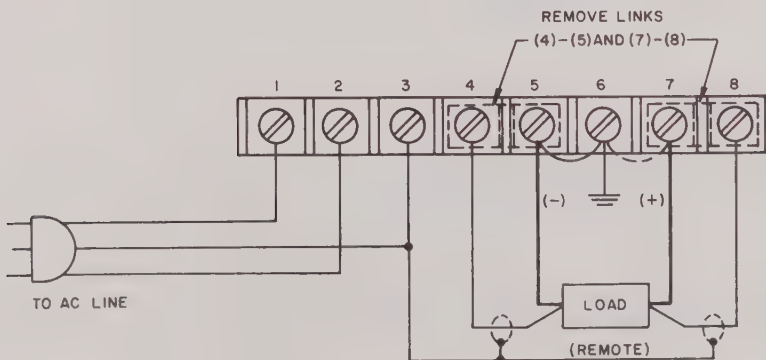

FIG. 3-2 LOAD CONNECTION WITH REMOTE ERROR SENSING
- 3-4 Specified DC performance DIRECTLY AT THE LOAD requires the use of remote error sensing. A twisted, shielded pair of wires is connected from the sensing terminals of the power supply (4,8) to the remote load. (See FIG. 3-2) Observe polarities: The negative sensing lead (from terminal 8) to the positive load side. Sensing wire diameter should be at least No. 20 AWG. For lowest output noise and ripple, either plus (+) or minus (-) output may be grounded.